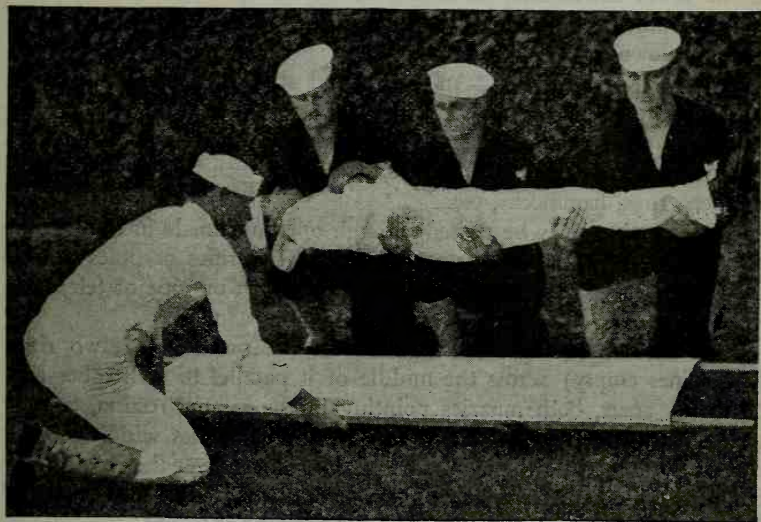

FIG. 28-35—Placing wounded man on stretcher.
**General directions for handling a stretcher.**—The method of placing a wounded man on a stretcher is shown in Fig. 28-35. The posi-